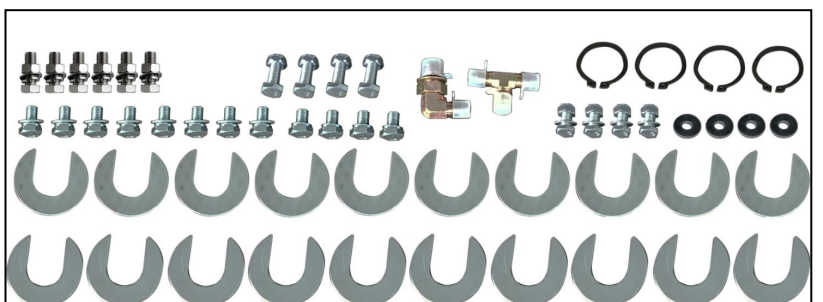

Fig. 11
- Open the bag of parts and check the parts of the parts bag according to parts bag list **(See Fig. 11).**